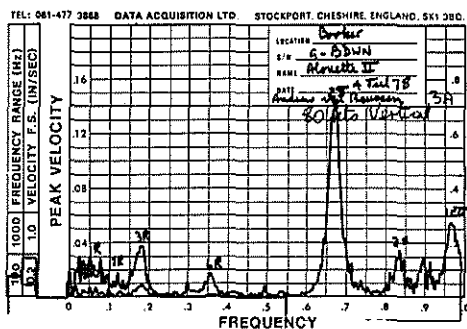

Fig. 9
d. Alouette II. (Fig. 9 & 10). This vibration had never been reported by the pilot. We traced it quickly to this bearing. An old blade strike had bent a bearing support, passed unnoticed, yet bowed the shaft out of line.